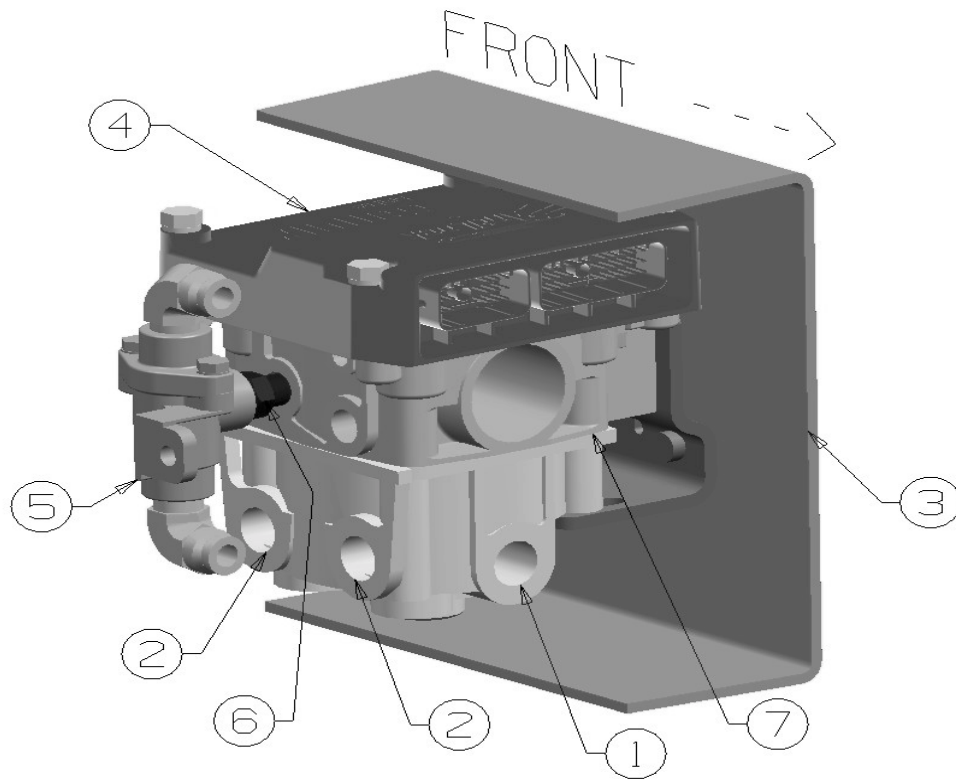
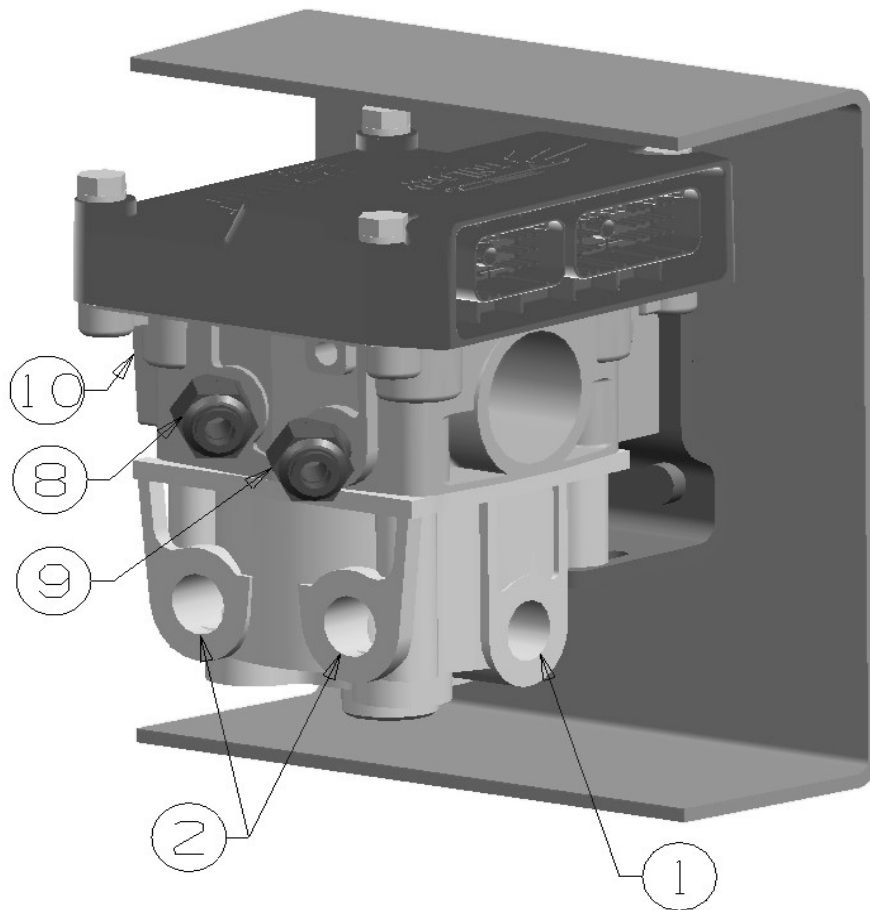

Figure 1: Original Relay Valve and Double Check Valve Assembly With the Subject Fitting
Figure 2: Kit 8900082R91 (Valve Kit) Contains a New Relay Valve with an Internal Double Check Valve, Existing ABS ECU Mounts on Top of the Valve as Shown
- 3. SOME OWNERS WERE NOTIFIED FOR THIS RECALL THAT SHOULD NOT HAVE BEEN NOTIFIED:** We changed the start date for the build date range from 8/12/97 to 3/01/98. All the vehicles built in this time frame were built at the Springfield Assembly Plant and do not need to have this recall performed. They have a different relay valve configuration and do not have the subject fitting as shown in Figure 1. As of 10/24/02, we unmarked the VIN records for those that had not already been inspected for this recall. If a customer has a card for this recall but the VIN record does not now show marked with the campaign, the recall does not need to be performed. A quick visual inspection of the relay valve on the vehicle and comparing it to Figure 1 can easily confirm this.
The straight fitting (Figure 1, item 6), that connects the double check valve to the rear axle brake relay valve, may break. With certain forces placed upon the vehicle, the weight of the check valve on the fitting can cause the assembly to resonate. The subsequent vibration can cause excessive strain levels in the fitting, which could eventually cause a fatigue failure.
3000 series, FE, RE and IC buses built from 3/01/98 through 2/07/02 with air brakes are included in this recall (02505). All vehicles built with the external double check valve and fitting as shown in Figure 1 are being recalled.
DESCRIPTION: The vehicles that need this recall repair **WILL HAVE** the fitting (item 6 in Figure 1) and the external double check valve (item 5 in Figure 1) and must have one of the two recall repair kits installed. **If a vehicle DOES NOT have items 5 and 6 shown in Figure 1, DO NOT complete the service procedure, report the vehicle as inspected and no corrections necessary (disposition or cause of 1).** This revision introduces a second repair kit, which requires different repair instructions. The correct instructions are identifiable by kit number. Be sure to follow the correct service procedure for the kit being installed.
Kit 8900082R91 (valve kit): This was the original kit released for this recall and contains a new air brake relay valve with an internal double check valve, and new ECU mounting screws and fittings (see Figure 2). When these kit parts are installed, the external double check valve and the subject fitting, items 5 and 6 in Figure 1, are eliminated. Figure 2 shows a representation of the new relay valve and the location of the air line control ports.
FOR THIS PROCEDURE REFERENCE FIGURES 1 AND 2
5. Make note of the supply and delivery air line positions because they must be reinstalled in the same relay valve ports as they were originally (Figure 2).
11. Install the new 45° fittings, from the kit, into the two control ports on the new relay valve assembly. Orient the fittings to face toward the front of the vehicle as shown in Figure 2.
15. Reconnect the air lines to the relay valve, reference Figure 2 and Table 1.
FOR THIS PROCEDURE REFERENCE FIGURES 1, 3 AND 4
5. Disconnect both air lines from the double check valve shown in Figure 1.
6. Remove the double check valve and the straight fitting (items 5 & 6) from the relay valve, reference Figure 1.
All vehicles in this campaign that have the fitting and double check valve as shown in Figure 1 must have kit #8900082R91 **OR** #8900083R91 installed. See Table 2 for kit contents. These kits are interchangeable for all vehicles in this recall. A limited number of the 8900082R91 kit was produced and when inventory is depleted, the 8900083R91 kit will replace it.